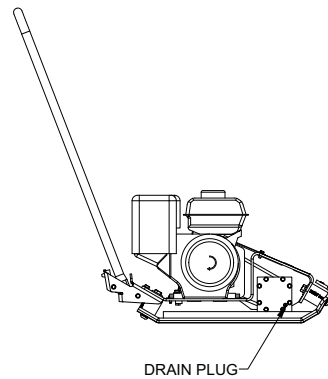

FIGURE 3
3. Remove drain plug (Figure 3), and tilt plate to the right so the oil drains from the exciter housing into a pan.